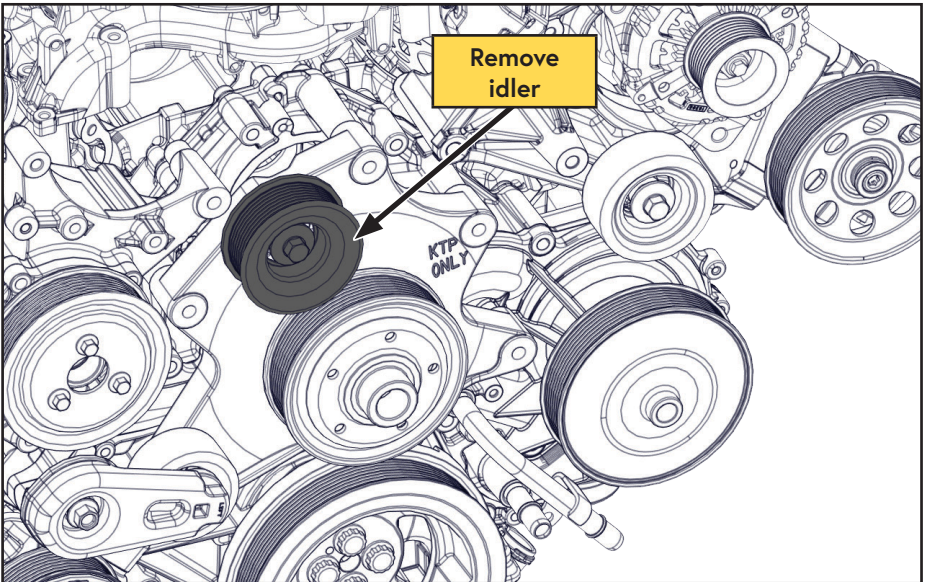

Figure 13 — Preparing for main bracket installation
- Remove the idler beside the power steering pump and set aside for later (Figure 13).